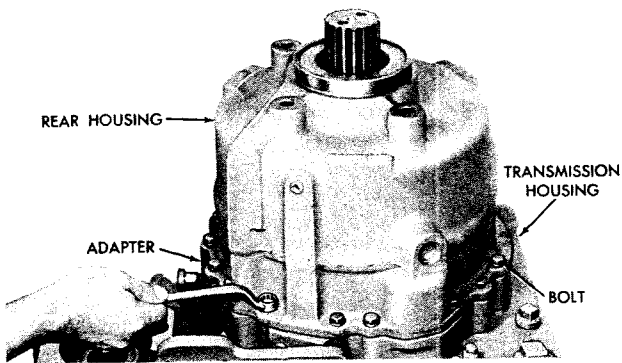

Fig. 5-31. Removing rear housing bolts
(1) Position the transmission, front downward, and remove 15 bolts and lockwashers which retain the rear housing to adapter (fig. 5-31).